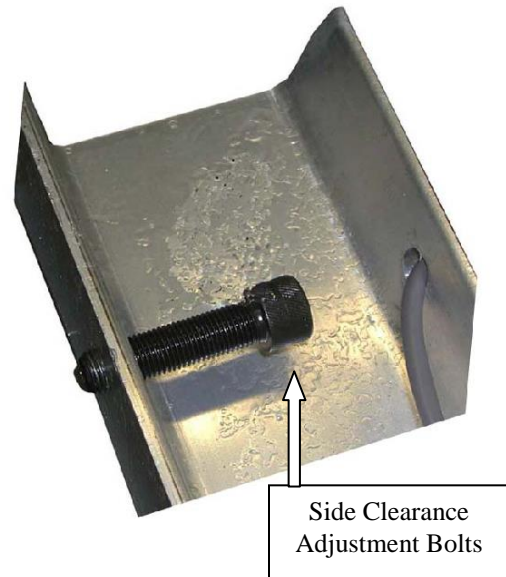

Figure 7: Side Clearance Adjustment Bolts
STEP 10: (Figure 7) Adjust the eight (8) Side Clearance Adjustment Bolts, so that the Platform Assembly is at an equal distance from all sides of the Pit Frame Assembly. Tighten bolts to secure Platform Assembly in place.